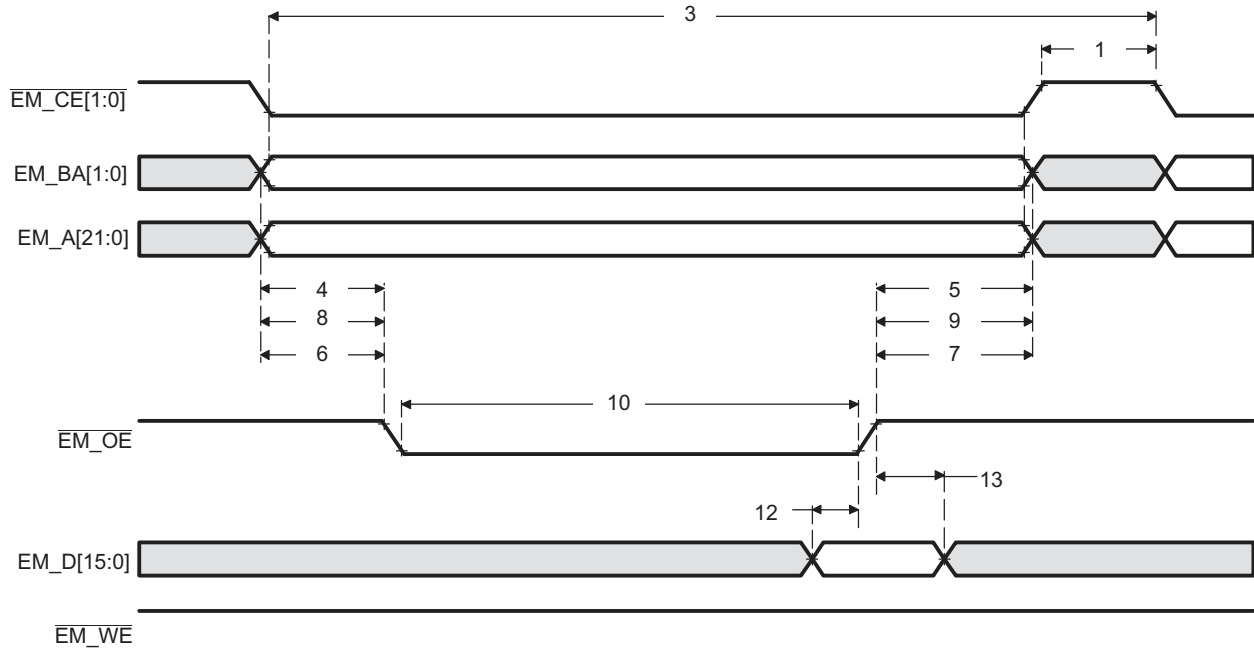
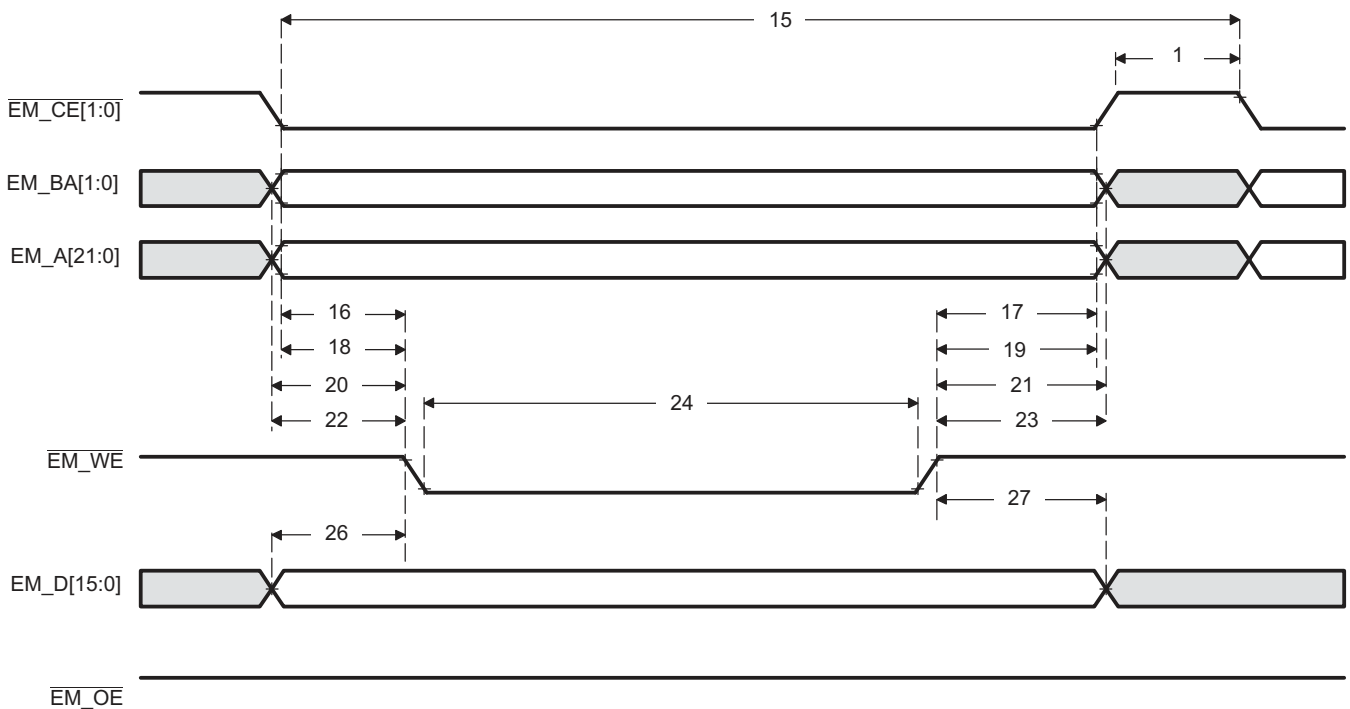

Figure 6-13. Asynchronous Memory Read Timing for EMIF
Figure 6-14. Asynchronous Memory Write Timing for EMIF
**Table 6-21. Timing Requirements for Asynchronous Memory Cycles for AEMIF Module(1) (see Figure 6-13 and Figure 6-14)**
**Table 6-22. Switching Characteristics Over Recommended Operating Conditions for Asynchronous Memory Cycles for AEMIF Module(1) (2) (3) (see Figure 6-13 and Figure 6-14)**
(1) TA = Turn around, RS = Read setup, RST = Read strobe, RH = Read hold, WS = Write setup, WST = Write strobe, WH = Write hold, MEWC = Maximum external wait cycles. These parameters are programmed via the Asynchronous Bank and Asynchronous Wait Cycle Configuration Registers. These support the following range of values: TA[4-1], RS[16-1], RST[64-1], RH[8-1], WS[16-1], WST[64-1], WH[8-1], and MEW[1-256]. See the *TMS320DM36x DMSoC Asynchronous External Memory Interface User's Guide* (SPRUF11) for more information.
(2) E=2\*PLL1C SYSCLK4 period in ns. See Section 3.3 for more information.
(3) EWC = external wait cycles determined by EM\_WAIT input signal. EWC supports the following range of values EWC[256-1]. Note that the maximum wait time before timeout is specified by bit field MEWC in the Asynchronous Wait Cycle Configuration Register. See the *TMS320DM36x DMSoC Asynchronous External Memory Interface User's Guide* (SPRUF11) for more information.
**Table 6-22. Switching Characteristics Over Recommended Operating Conditions for Asynchronous Memory Cycles for AEMIF Module(1) (2) (3) (see Figure 6-13 and Figure 6-14) (continued)**